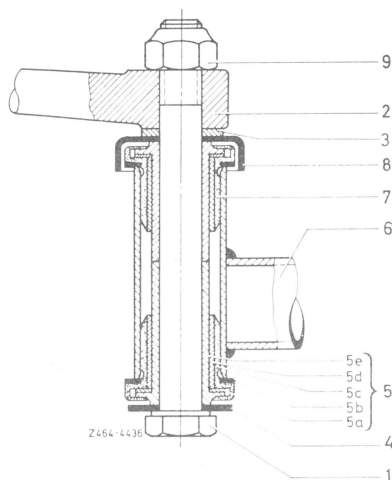

Fig. 18
Deviations of pivot point position can be balanced within certain limits on intermediate steering lever by means of washers (3) (Fig. 18).